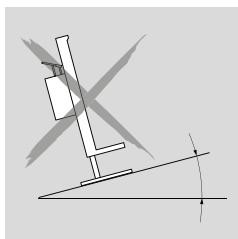

Fig. 4.2
- Loads may only be lifted on one side. Do not lift to the fullest extent of the jack (Fig. 4.2).